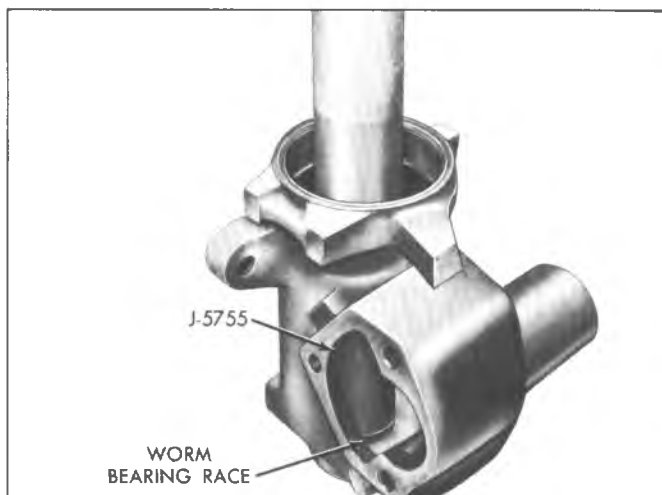

Fig. 10--Installing Wormshaft Bearing Race-Typical
3. Press the new bearing race into position using Tool J-5755 (fig. 10).